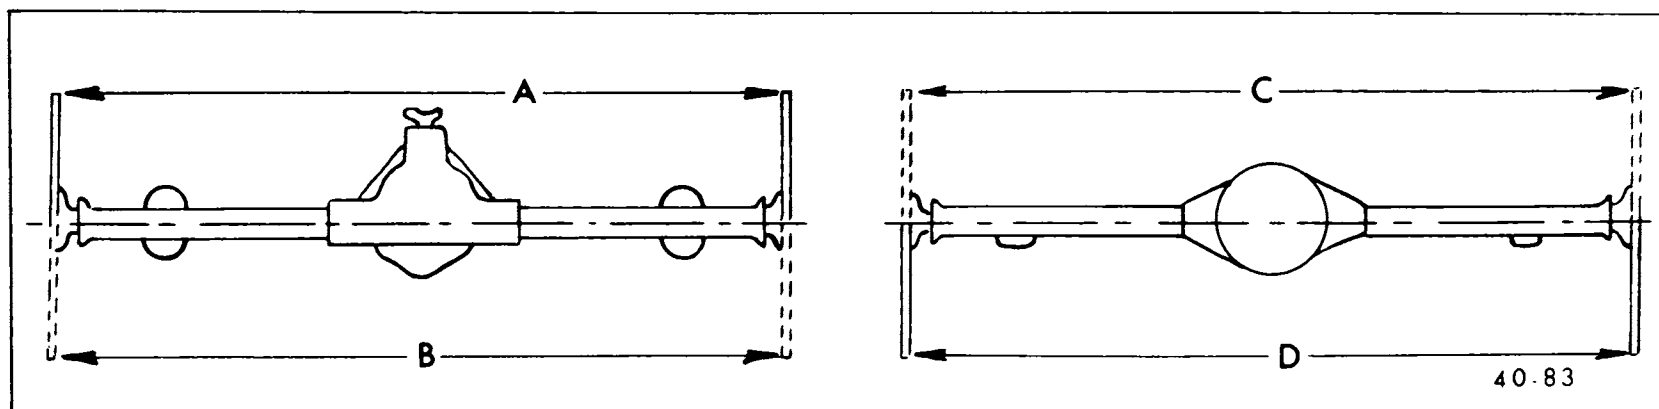

Figure 40-180—Checking Rear Axle Toe and Camber
7. Rotate tools 180° by turning pinion and measure again. The tolerances are shown in Figure 40-180.
9. Rotate tools 180° by turning pinion and measure again. The tolerances are shown in Figure 40-180.